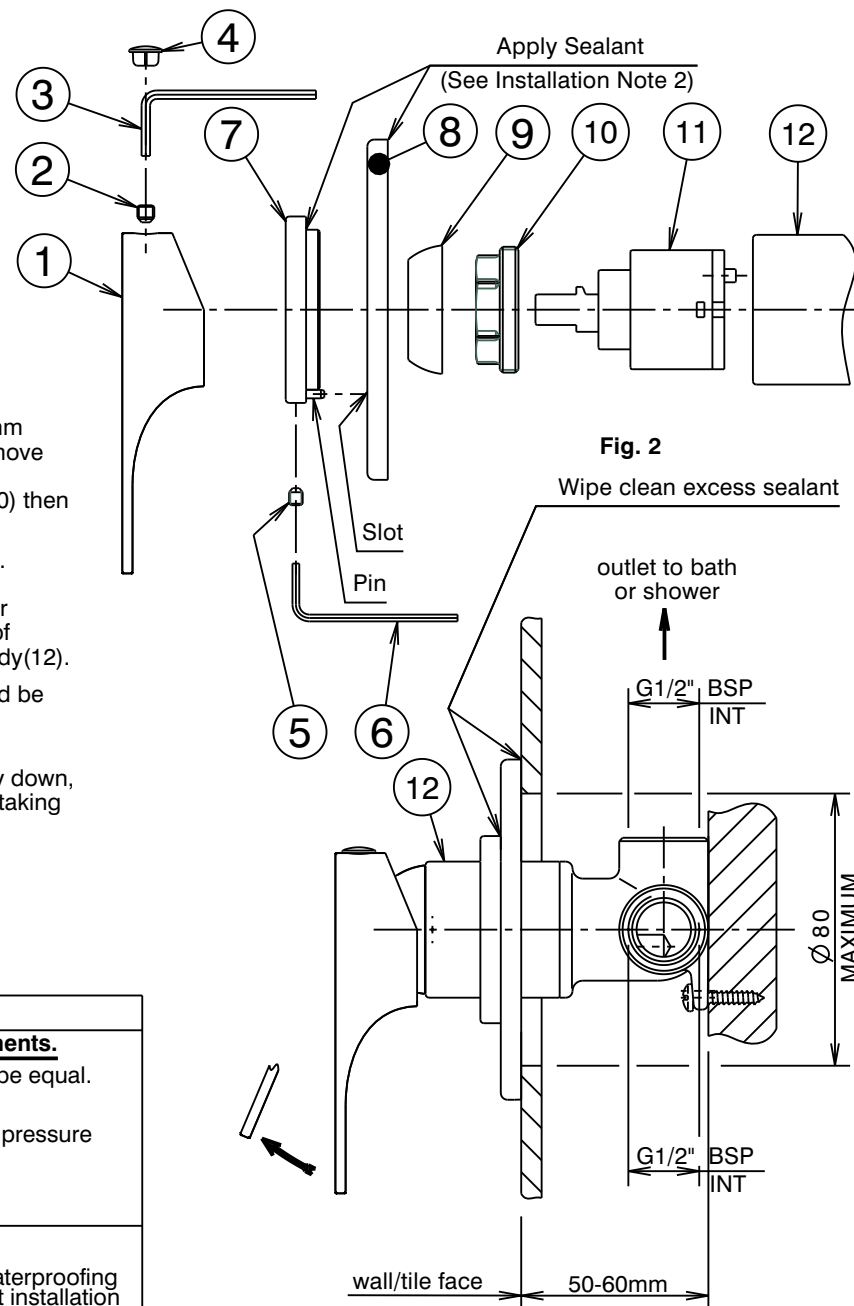

Fig. 1
Installation (Fig. 1 & 2)
- 2) Apply a suitable clear sealant to the back edge of the cover plate (8), leaving an unsealed section at the bottom for drainage. Apply a suitable clear sealant in the corner around the location diameter of the retaining ring (7), to prevent water entering the wall cavity (See Fig. 2). Carefully fit the cover plate (8) followed by the retaining ring (7) onto the mixer body (12), ensuring the slot in the cover plate is at the bottom & the pin in the retaining ring is engaged in the slot (with the screws at the bottom). Push the retaining ring and cover plate firmly against the wall/tile face and tighten screws (5) using 2mm allen key (6). Wipe clean any excess sealant from the chrome surfaces & the wall/tile face (See Fig. 1).
- 3) Fit handle (1) taking care that it is pushed fully down, then tighten grub screw (2) using 2.5mm allen key (3). Insert plug (4) taking care not to damage the decorative finish.